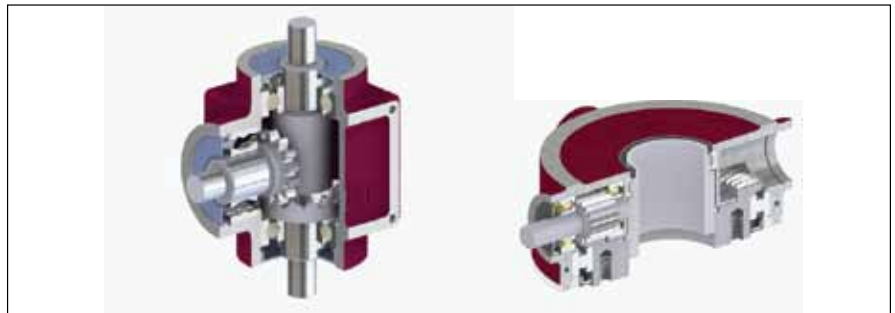

Figure 10—Block-shaped 1:1 and flat 1:5 versions of the Evolvere angular gearbox family.
- Block-shaped gearboxes for 90° transmission ratios 1:1 to 1:4 (Fig. 10)